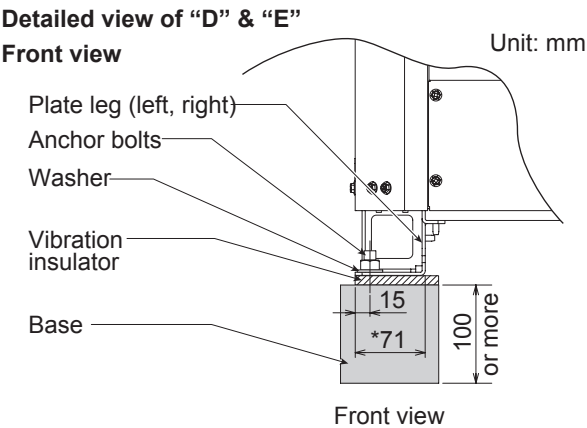

Fig. 2-21d
- (3) The vibration insulator or the like should be kept secure to satisfy the width and depth of 100mm for the plate legs.
(See the dimensions marked by the asterisk at Fig. 2-21d - 2-21g.) Use a washer from the upper direction larger than the hole size for fixing the installation. The models 18 and 20 have four (4) anchor bolts respectively as same as others.